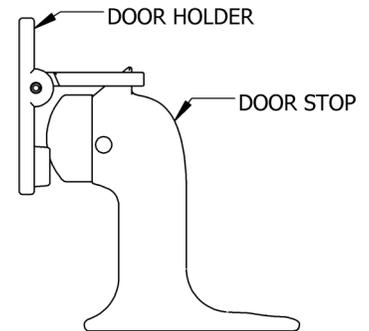

FIGURE 3
8. Latch door holder onto stop. Open door until it hits door stop. Place door holder onto the door (while still latched on door stop) in a spot where latch is close to parallel with the floor. Mark holes on door holder. (See Figure 3).
10. Attach door holder to door using (2) #10 x 1" flat Philips head wood screw.